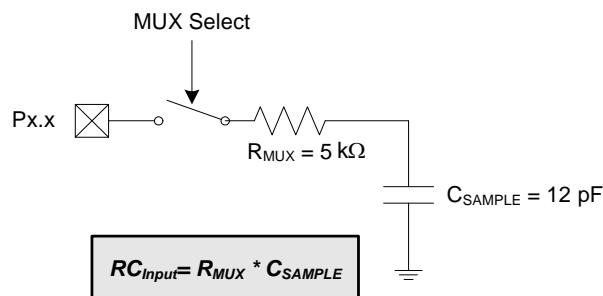

Figure 5.6. ADC0 Equivalent Input Circuits
Figure 5.6 shows the equivalent ADC0 input circuit. The required ADC0 settling time for a given settling accuracy (SA) may be approximated by Equation 5.1. When measuring V_{DD} with respect to GND, R_{TOTAL} reduces to R_{MUX}. See Table 5.3 and Table 5.4 for ADC0 minimum settling time requirements.